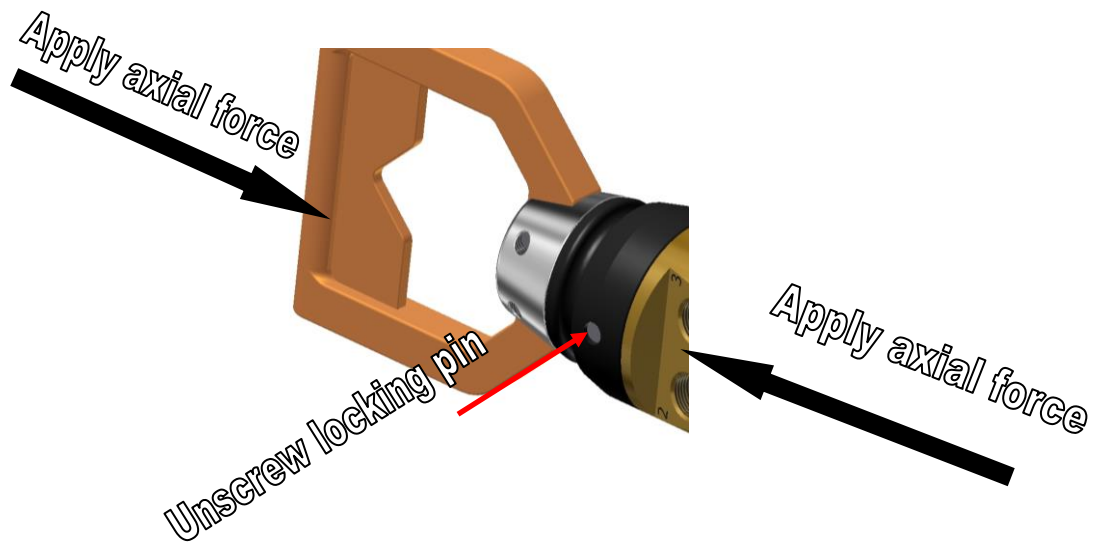

Figure 19 Flex joint installation
1. Secure the Stab in a vice thus applying axial force between the Stab body and ROV Interface according to figure 19